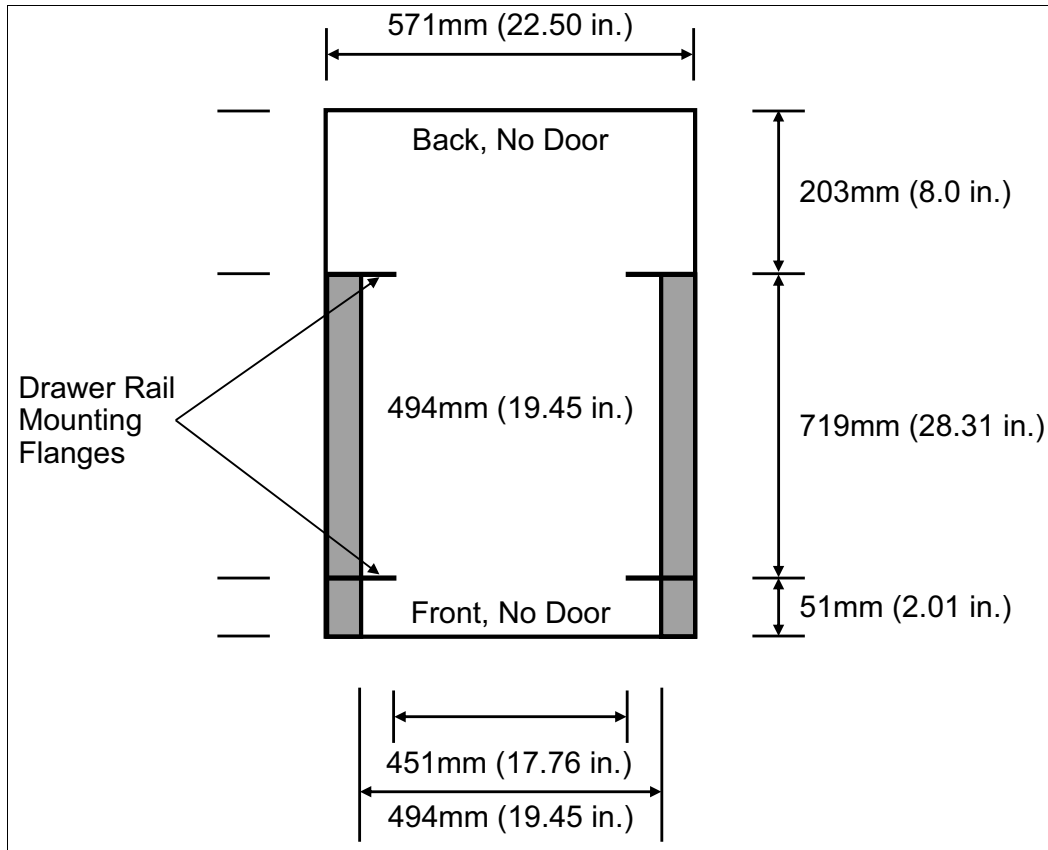

Figure 1-9 Top view of rack specification dimensions (not specific to IBM)
- ▶ The front rack opening must be 451 mm wide ± 0.75 mm (17.75 in. ± 0.03 in.), and the rail-mounting holes must be 465 mm ± 0.8 mm (18.3 in. ± 0.03 in.) apart on-center (horizontal width between the vertical columns of holes on the two front-mounting flanges and on the two rear-mounting flanges). Figure 1-9 on page 25 is a top view that shows the specification dimensions.